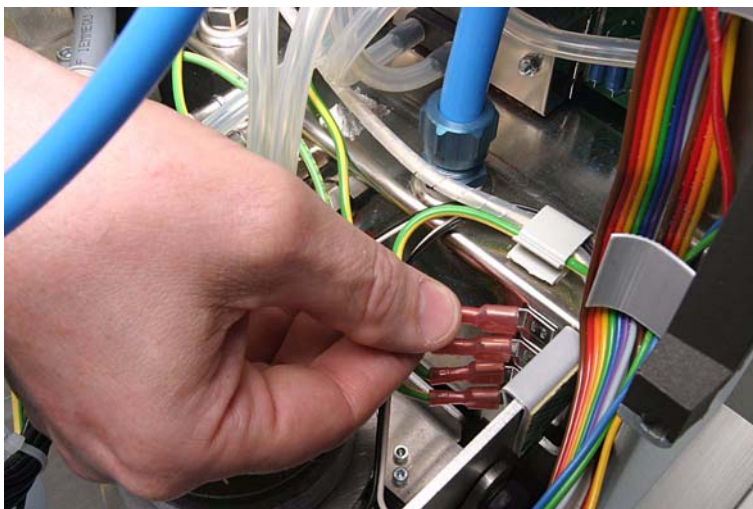

Figure 8-2. Testing for tightness
2. Pull each wire, to test for tightness. (Figure 8-2.)